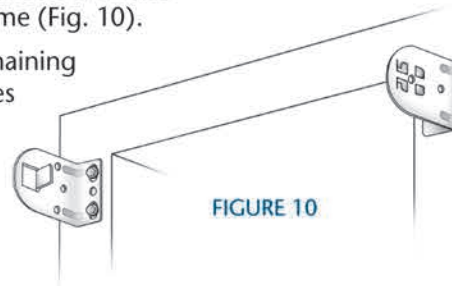

FIGURE 10
- 1 For mounting on a window frame, place the clutch side bracket (bracket with metal protruding tab) on cord placement side. Drive screws through the front screw holes and into the front of the frame (Fig. 10).